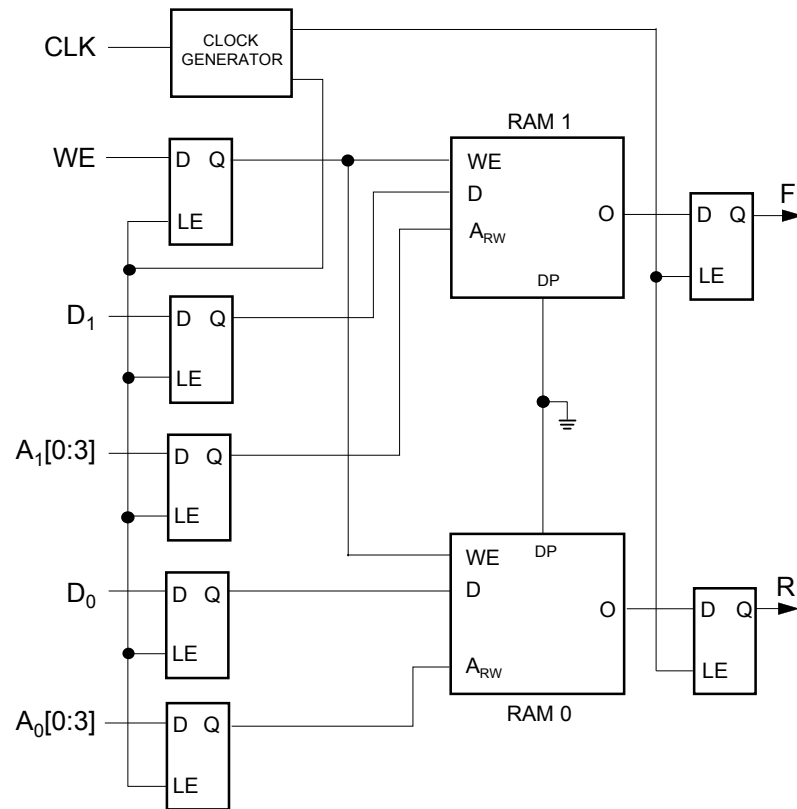

Figure 13: Dual 16X1 Single Port RAM
Figure 13 shows the configuration for the dual 16X1 single port RAM. The cell contains 2 separate 16X1 RAMs where each has their own address and data pins. The dual RAM has 12 inputs. There are 4 bits of address (A00 - A03) and a data input (D0) for RAM 0 and 4 separate bits of address (A10 - A13) and a separate data input (D1) for RAM 1. Both RAMs share the same write enable (WE) and clock input. All 11 inputs are totally synchronous to the clock. Just like an edge triggered flip flop, the only timing requirement is that all setup and hold times are obeyed. Operation of the RAMs is identical to that of the 32X1 single port. When WE is HIGH, the RAMs are in the write mode. Data presented on the D0 input will be written to the location specified by addresses A00 - A03 while data presented on the D1 input will be written to the location specified by addresses A10 - A13. During a write cycle, the outputs of the RAMs are in an unknown state. When WE is LOW, the RAMs are in the read mode. After the rising edge of the clock, the data stored in the location specified by A00 - A03 appears on the output of RAM 0 and the data stored in the location specified by A10 - A13 appears on the output of RAM 1. This is a single clock operation.